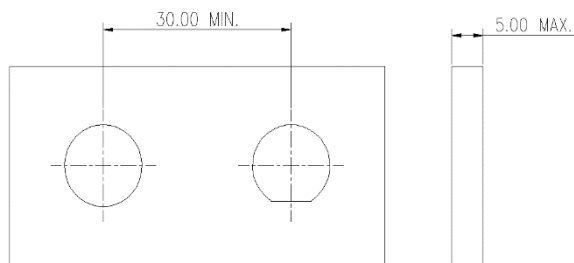

Figure 15
- ✧ 请确保墙板的厚度最大不超过 5mm, 无论水平或垂直结构，钻孔间隙至少要有 30mm (如图 15)。
Please ensure the thickness of housing wall not more than 5 mm, for both horizontal and vertical mounting, the space of drilled hole is recommended at least 30 mm (Fig.15).